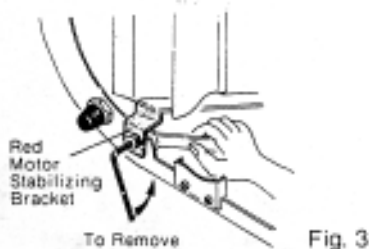

Fig. 3
3. Remove red painted packing bolts and motor stabilizing bracket. (Fig. 3, 4a and 4b)